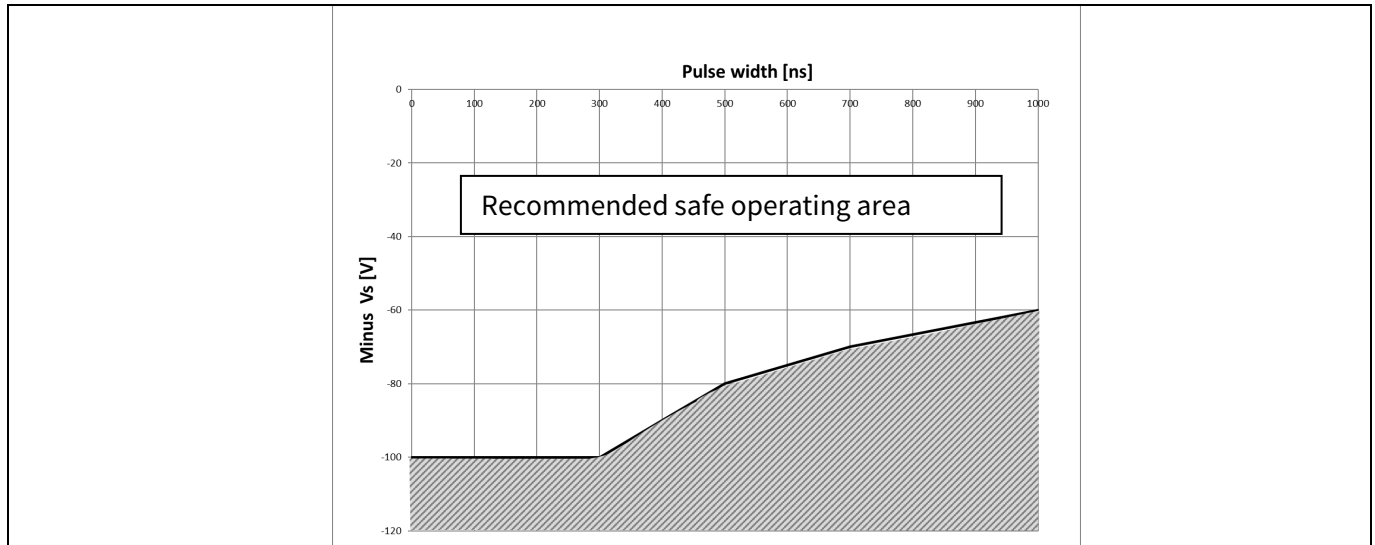

Figure 20 Negative VS transient SOA for 2ED2109 (4) S06F (J) @ VBS=15 V
Infineon’s HVICs have been designed for the robustness required in many of today’s demanding applications. An indication of the 2ED2109 (4) S06F (J)’s robustness can be seen in Figure 20, where the 2ED2109 (4) S06F (J)’s Safe Operating Area is shown at $V_{BS}=15$ V based on repetitive negative V_S spikes. A negative V_S transient voltage falling in the grey area (outside SOA) may lead to IC permanent damage; viceversa unwanted functional anomalies or permanent damage to the IC do not appear if negative V_S transients fall inside the SOA.